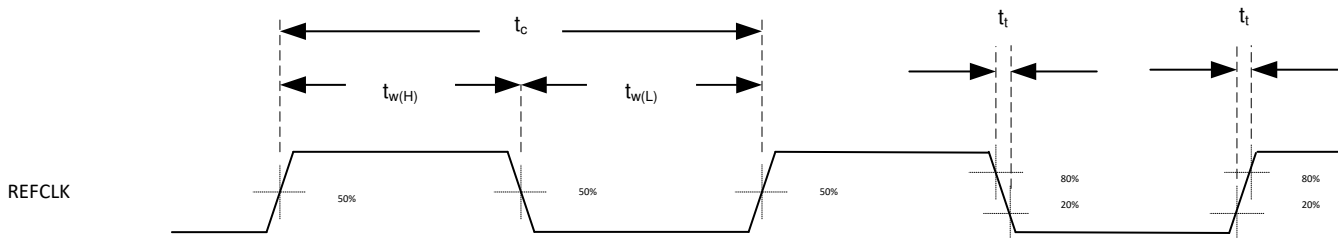

**Figure 6-3. External USB Switch Example for DLPC6540 Controller as USB OTG Master**
- (1) Referenced to VAD33\_USB (I/O type 11)
- (2) When used as a master as part of USB OTG, the DLPC6540 requires an External USB Switch to provide the USB 5-V power. The example shown in Figure 6-3 makes use of a TI TPS2500/2501 device. The example figure does not describe the required ancillary components (such as, resistors and capacitors). For this information please refer to the USB Switch logic datasheet for the selected device. The External USB Switch is not required for product configurations that are supporting USB slave mode only.